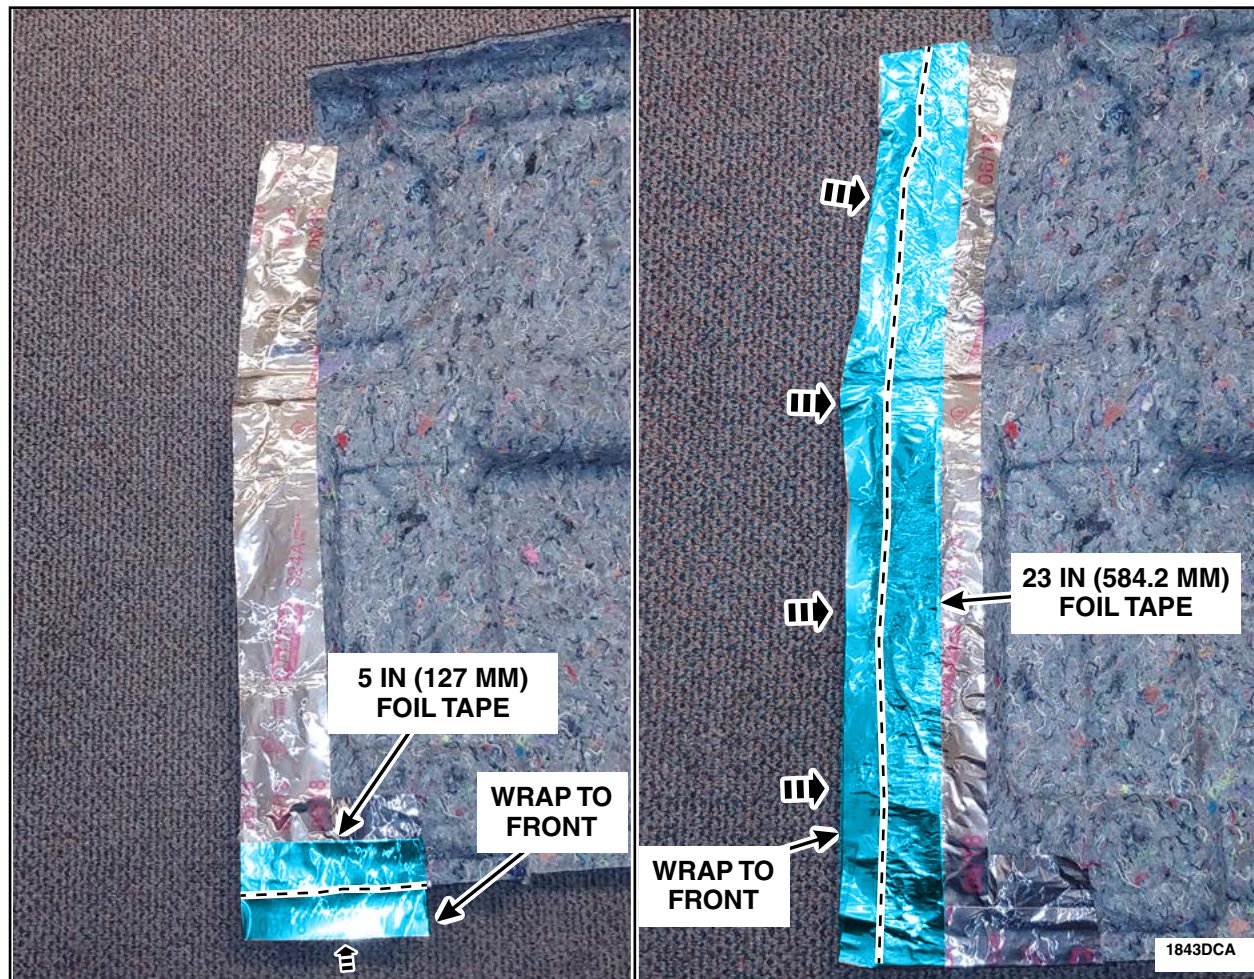

FIGURE 16
4. Remove the paper backing from the second 5 in (127 mm) length of foil tape. Align the edge of the tape with the bottom and outboard edges of the loadspace trim panel. See Figure 16.
5. Remove the paper backing and apply the second 23 in (584.2 mm) foil tape to the rear surface of the panel overlapping the previously applied foil tape by 1 in (25.4 mm). Wrap the foil tape to the front side of the panel. See Figures 16 and 17.